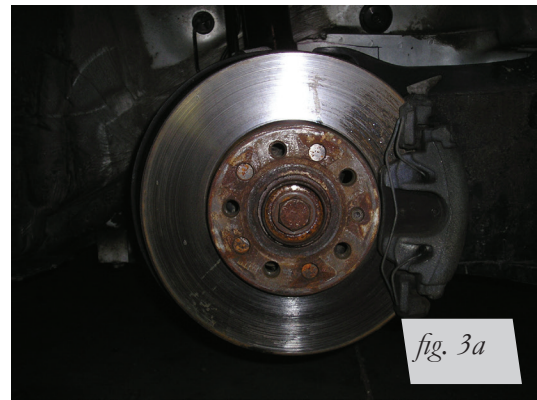

fig. 3a
2. Unthread and remove the axle bolt from the hub assembly (Fig. 3a).